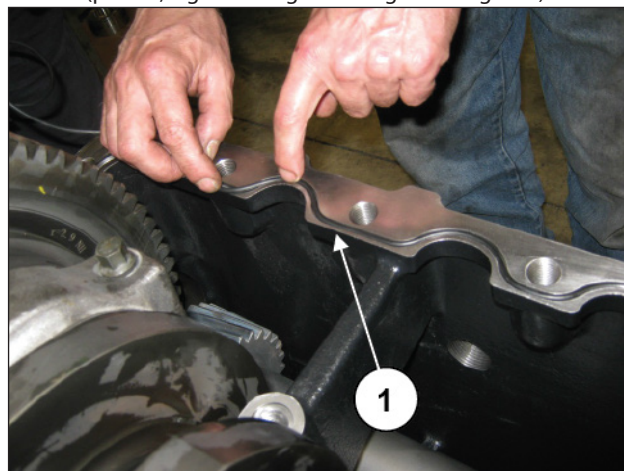
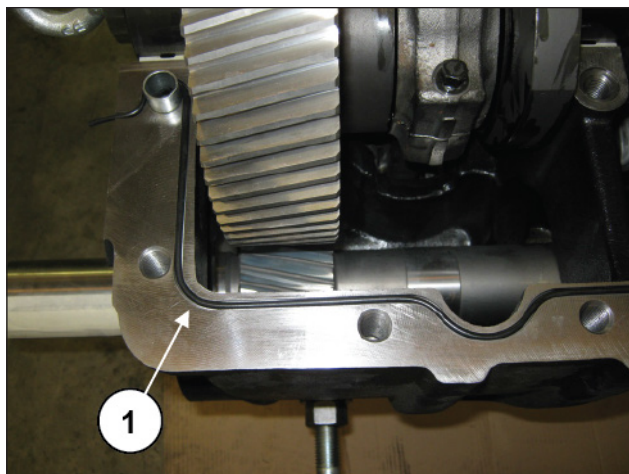
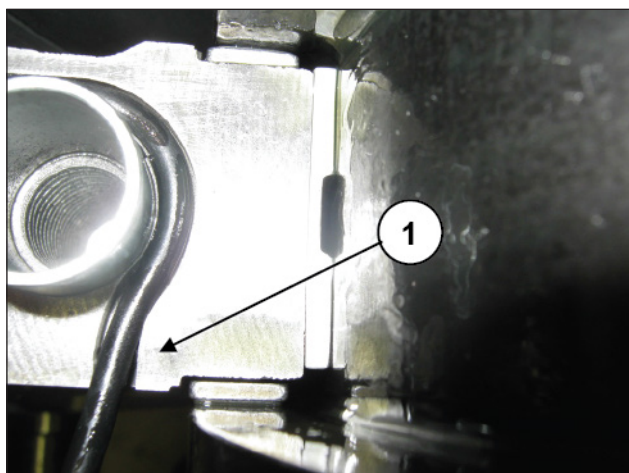
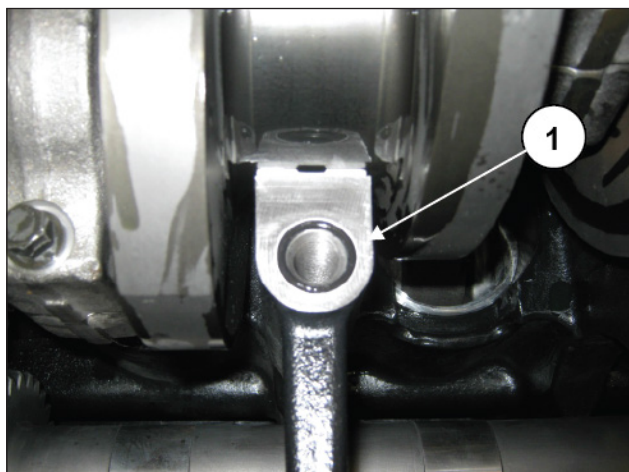

Fig. 104
Fig. 105
Fig. 106
Fig. 107
Fit the O-rings in their locations on the front casing mating surface (pos. ①, Fig. 104 – Fig. 105 – Fig. 106 – Fig. 107).